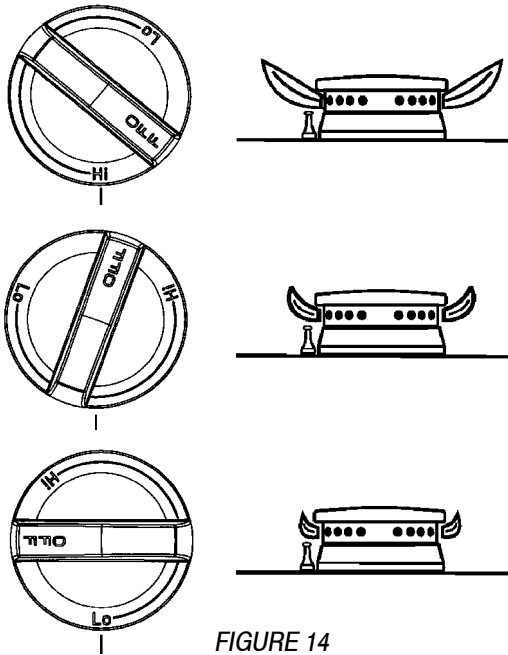

FIGURE 14
After Conversion Steps A, B and C have been completed, check the appearance of each burner flame at the Hi and Lo settings against figure 14. If the flames appear too large or too small, review each step to make sure it was completed correctly.
6. Starting from the LP position (see #5 on page 9, under C. LOW FLAME ADJUSTMENT), turn the screw counter clockwise until the flame stabilizes and matches the pictured "low" setting on figure 14. Proper adjustment will produce a stable, steady blue flame of minimum size. The final adjustment should be checked by turning the knob from high to low several times without extinguishing the flame.
After Steps A, B and C have been completed, check the appearance of each burner's flame at the Hi and Lo settings against figure 14. If the flames appear too large or too small, make sure all steps were completed correctly.